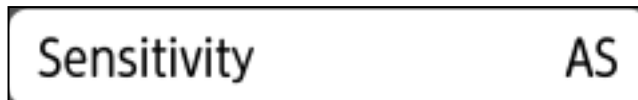

**Figure 4-23 Relative permittivity setup screen**
- (1) Tap Device setting: **[Relative permittivity]** menu. Then the relative permittivity setup screen (Figure 4-23) appears. The current setting is shown in the screen.
- (2) Tap the setting value (**8.0** shown in Figure 4-23). Then the list of the available setting values appears.
- (3) Scroll the list and tap a desired value as the relative permittivity.
- (4) Confirm the selected value is shown in the screen as the current setting.
- (5) Tap **[OK]** to return to the parameter setup screen. To cancel the setting change, tap **[Cancel]**, then the screen returns to the parameter setup screen without setting change.
- (6) Tap **[Return to the main window]** to return to the main screen.